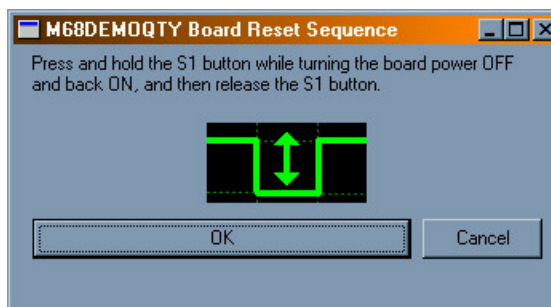

Figure 1-9. M68DEMOQTY Board Reset Sequence Window
- Likewise, select Mode: In-Circuit Debug/Programming. The PROG08SZ programmer launches and the M68DEMOQTY Board Reset Sequence window appears (see Figure 1-9).